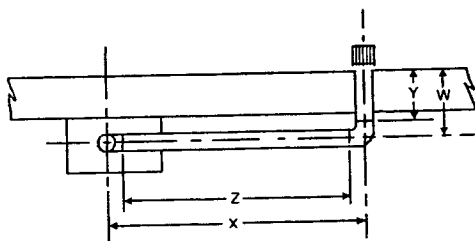

Fig. 18
- 5.5.23 Ensure when siting the flue hole position that the combined distances (Y+Z on fig. 18) between the flue elbow on the boiler to the extra bend and from the face of the outside wall to the extra bend do not exceed the distances given in cl 3.4.4
- 5.5.24 Measure carefully the distance between the centre of the flue bend on the boiler to the centre of the hole through the wall (dimension X fig. 18).
- 5.5.31 Ensure that the flue pipe runs parallel to the wall then carefully measure the distance from the outside face of the wall to the centre of the extra bend (dimension W fig. 18).